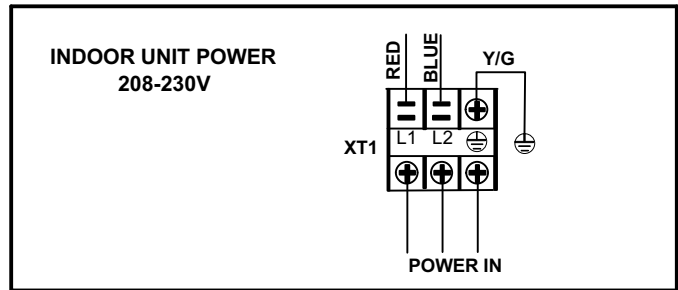

Figure 11. Typical Power Wiring
- 2 - Locate the terminal strip in the control box. Connect the power wiring (sized per NEC/CEC and local codes) and communications cable (**three-conductor, shielded cable**) per figures 11 and 12. Refer to unit nameplate for rated voltage.